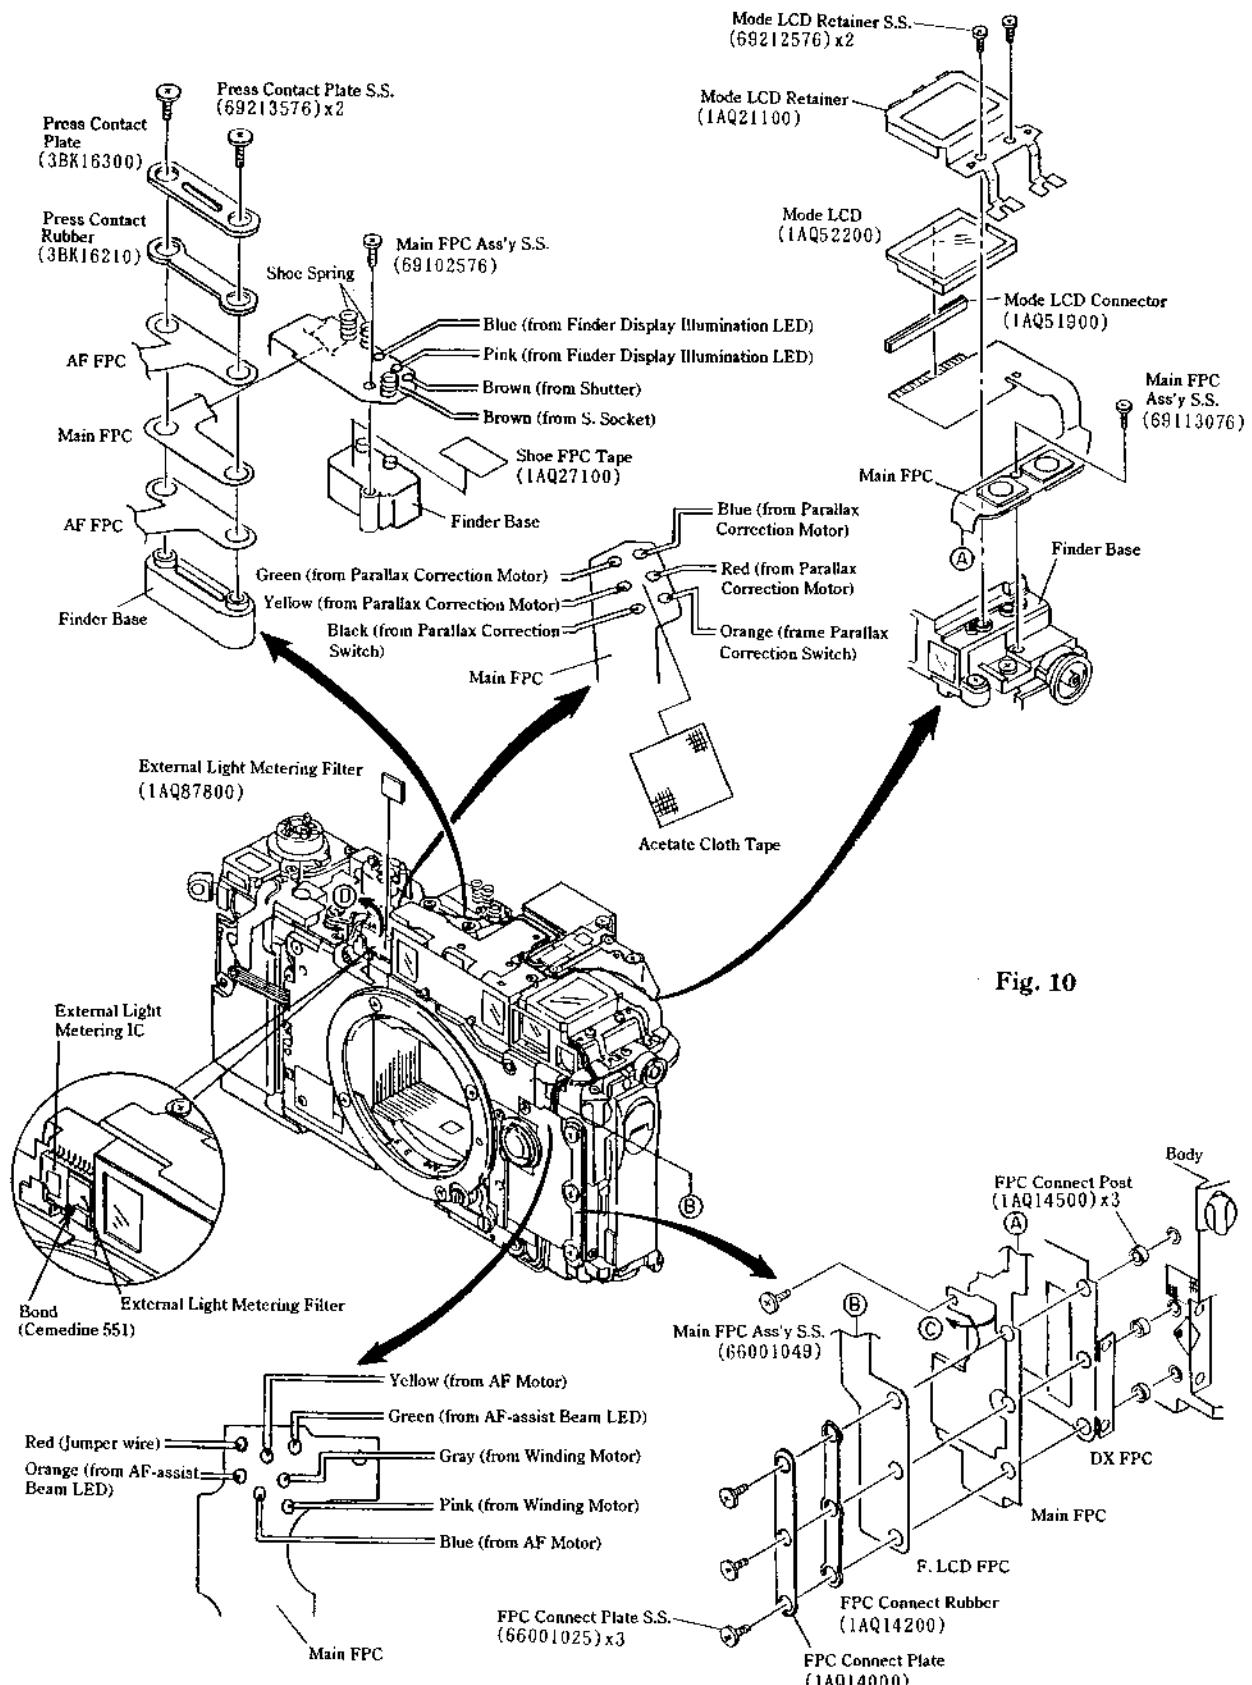

Fig. 10
(Top Right of Body) (See Fig. 10)
- 13) Remove the External Light Metering IC portion from the Finder Base in the direction of the arrow (D). (See Fig. 10)
(Front Right of Body) (See Fig. 10)